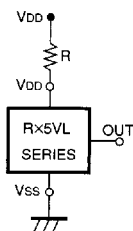

FIG. 8
1. When R×5VL××C (CMOS Output) is used in FIG. 8, this IC may oscillate by the through-type current at the detection when impedance is connected between Power Source VDD and R×5VL VDD Pin. When R×5VL××A (Nch Open Drain Output) is used in FIG. 8, and R becomes excessively large, Detector Threshold may be varied because of the voltage drop of the supply current in the IC itself.